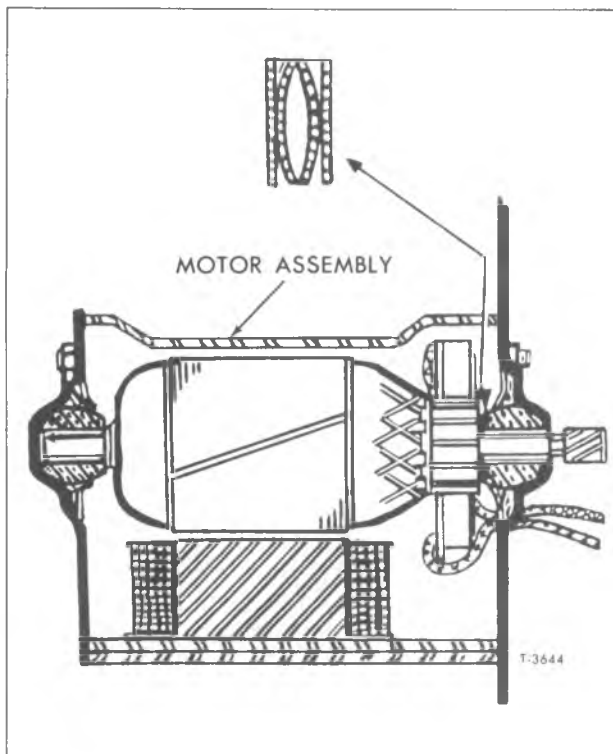

Figure 14—End Play Wave Washer Installation
10. Slide armature and end plate from motor frame and field. Note arrangement of wave washers (fig. 14) on gear end of armature shaft before removing to assure proper installation upon motor assembly.
NOTE: Be sure wave washers on armature shaft are installed properly as shown in figure 14. Lightly lubricate armature shaft bushings with light machine oil. Be sure brushes are properly positioned in holders before armature commutator protrudes between brushes.